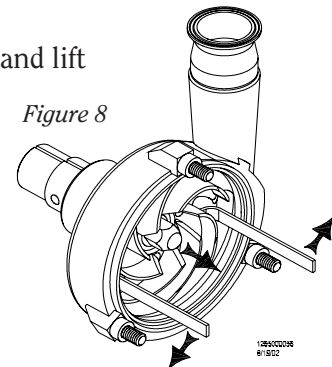

Figure 8
- f) Remove the impeller (22) from the pump shaft (7) by grasping an impeller blade in each hand and pulling the impeller toward you. If the impeller is difficult to pull off the shaft, wedge the impeller pullers between the pump housing (10) and the back of the impeller and pry off the impeller (*Figure 8*).